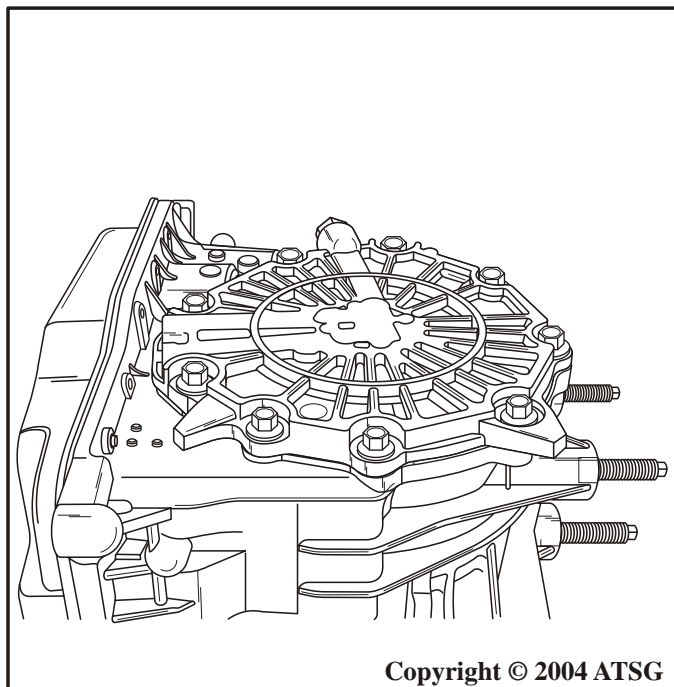

Figure 25
8. Rotate the transaxle so that the end cover is facing up, as shown in Figure 25.